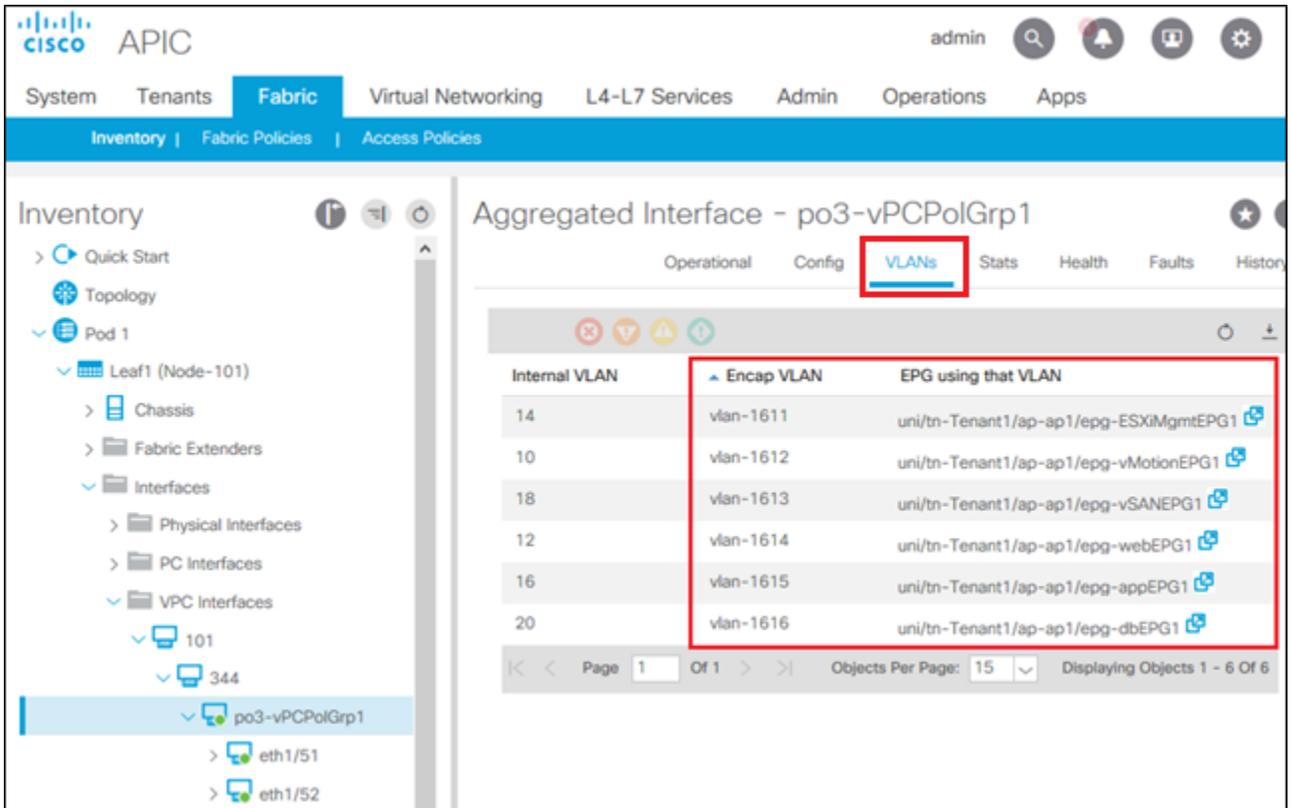

Figure 53 Cisco ACI vPC port channel VLANs and EPGs
- With the port channel/vPC interface policy group selected in the left pane, click **VLANs** at the top of the right pane as shown in Figure 53.
3. With an interface selected in the left pane, click **VLANS** at the top of the right pane as shown in Figure 53.